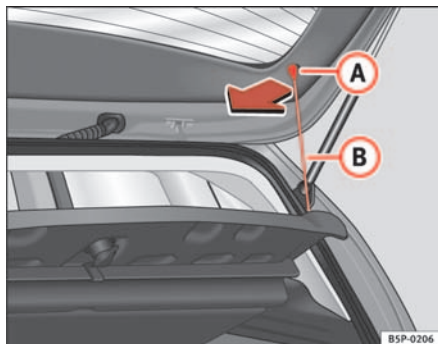

Fig. 120 Luggage compartment cover
- Disengage the loops ⇒ fig. 120 (B) from the allotments (A)